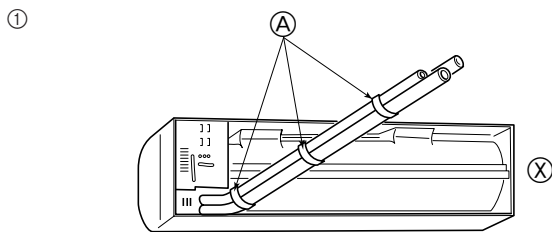
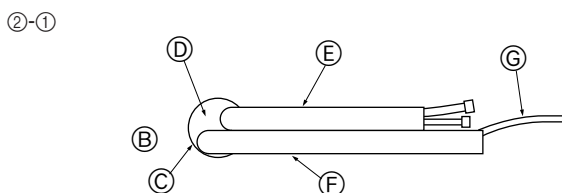

Fig. 3-4
Fig. 3-5
- ① Fasten a thread to the hole
- ② The level can be easily obtained by hanging a weight from the string and aligning the string with the mark.
- ① Rear, right and lower piping (Fig. 3-4)
- ② Left and left rear piping
- ②-① For left rear piping, pull the pipes out the hole to determine their correct length, then bend them. The indoor unit should hang on the wall mounting fixture. (Fig. 3-5)